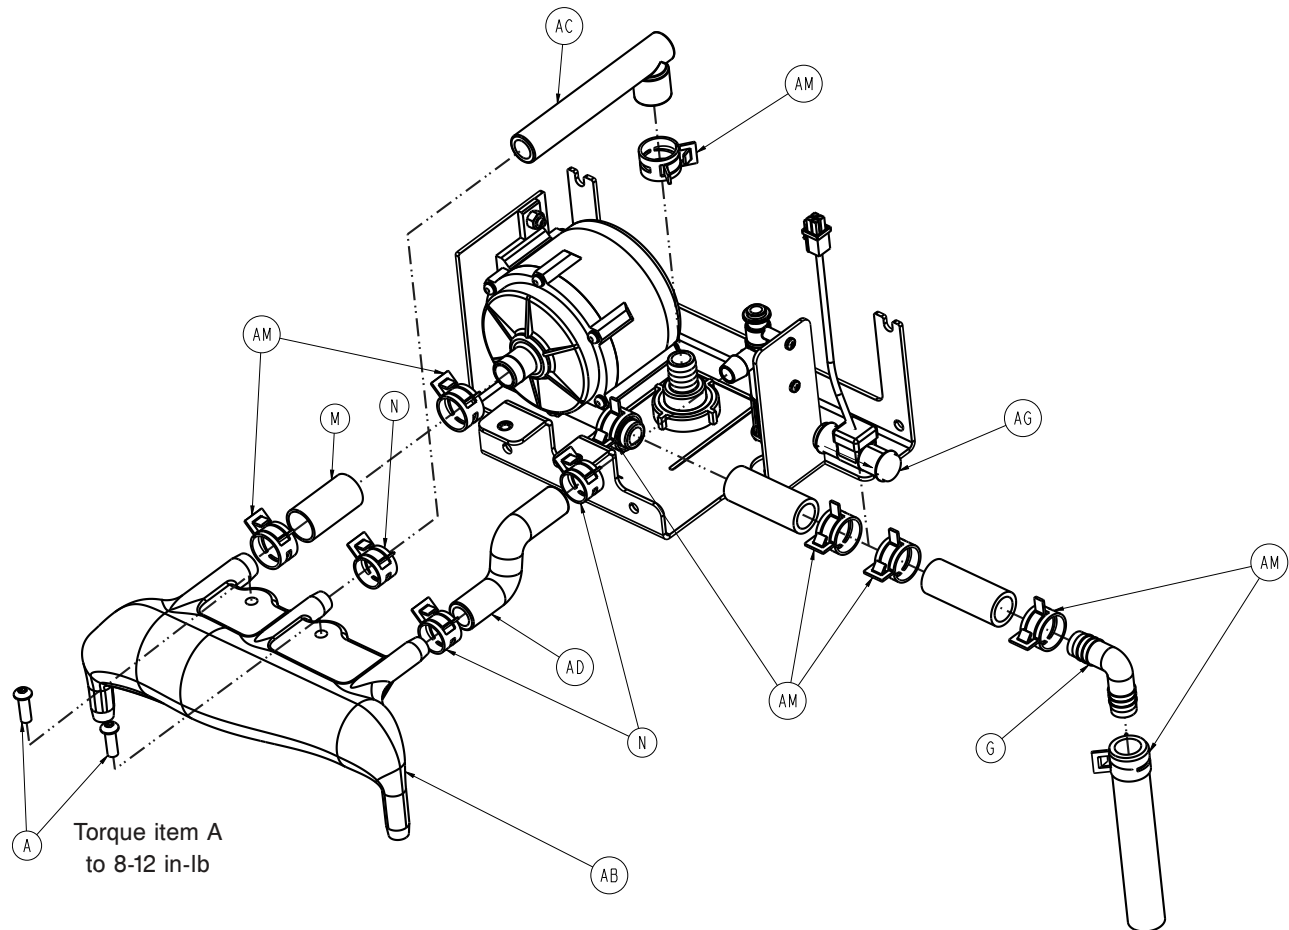

Figure 42: Hose clamps
11. Using needle nose pliers, pinch the hose clamps (AM) and remove the tubing off of the System Flow Sensor (Figure 42 on page 57).